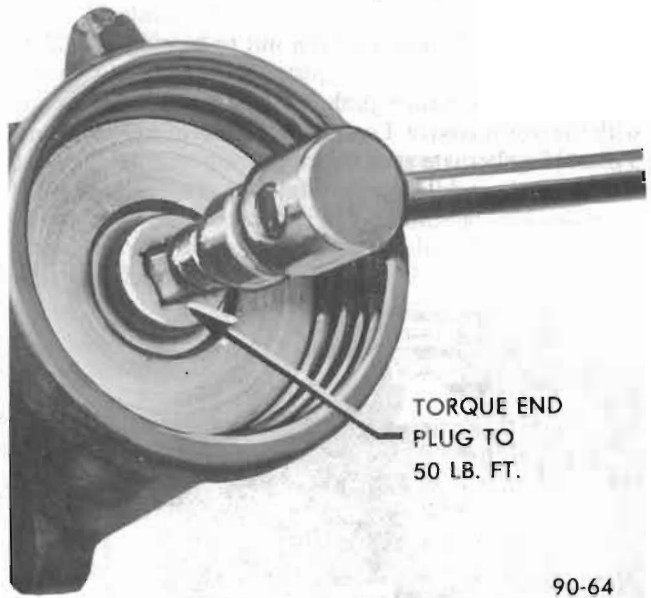

Figure 90-64 Torquing Rack-Piston Nut End Plug
7. Install rack-piston end plug using 1/2" square drive. Torque plug to 50 lb. ft. See Figure 90-64.